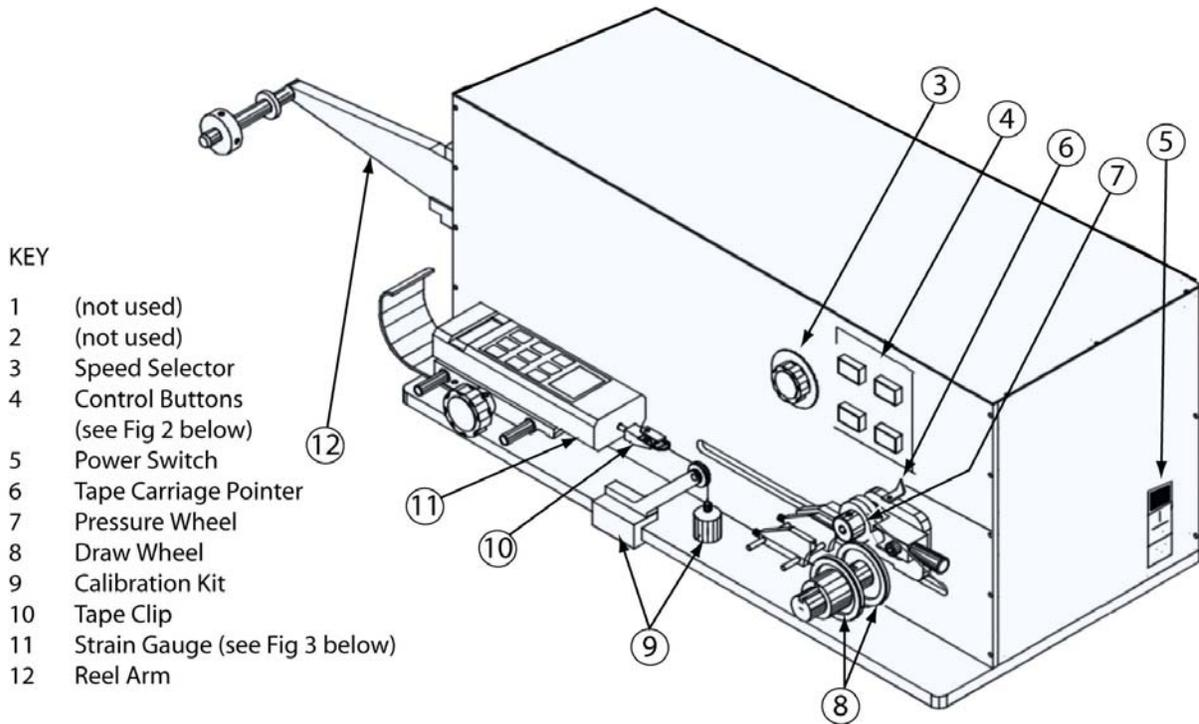

Figure 1 PBFT VS - Key elements (shown with Calibration Kit installed)
2. Visually inspect the machine for any damage due to shipping. If any obvious damage is observed, contact the GPD Global Service Dept. at (970) 245-0408 (in USA and Canada, call 1-800-742-5473).
4. Verify that the draw wheel (see page 2, Figure 1, Item 8) and pressure wheel (Item 7) are in place.
2. Verify that the strain gauge (page 2, Figure 1, Item 11) is functional:
- b. Manually position the tape carriage pointer (Figure 1, Item 6) with the zero (0) mark on the Length of Test scale (see below).
- d. Select a speed on the speed selector (Figure 1, Item 3).